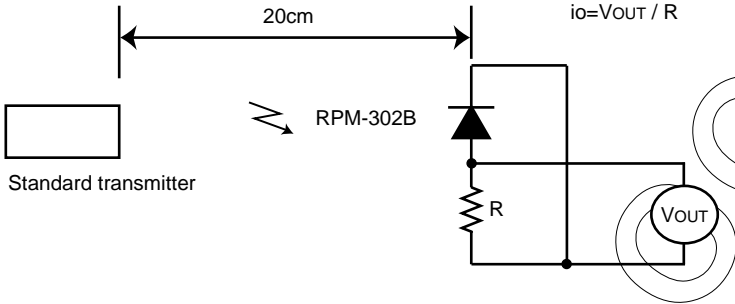

Fig.2 Measurement of standard transmitter proofreading
When standard transmitter output the signal at Fig.1 standard photodiode output become $i_o=5\mu A_{p-p}$ under the measurement condition Fig.2.
- (1) All characteristics of the receiver in this specification are specified by supplying burst wave form (Fig.1) with ROHM standard transmitter (Fig.2).